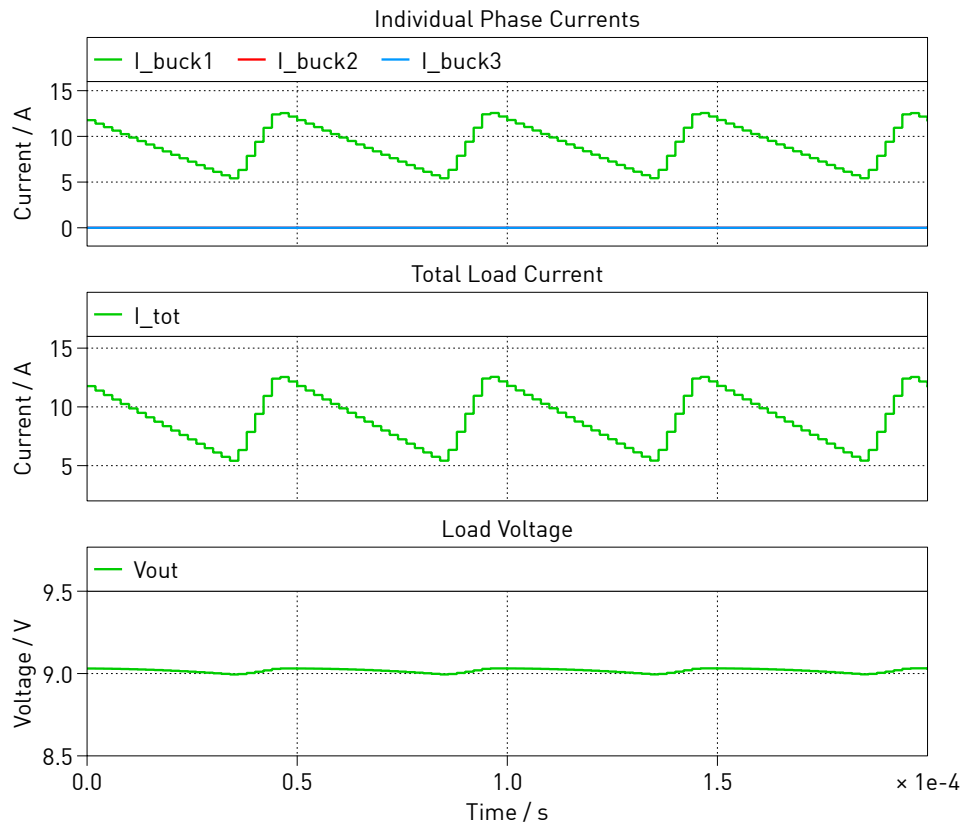

Fig. 6: Simulation result with only one active phase
- Under External Mode, one can further change the aforementioned Constant block from $[1 \ 0]$ to $[0 \ 0]$. This gives the biggest load resistance, hence the smallest load current. The real-time simulation waveforms should look like in Fig. 6, where only the first phase is active.